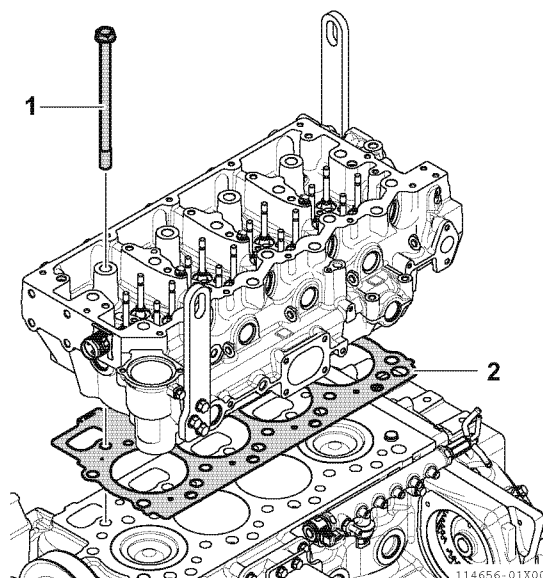

Fig.14-5
3. Remove the cylinder head bolts (1, Fig.14-5), then lift and remove the cylinder head from the cylinder block. Discard the cylinder head gasket (2, Fig.14-5). Position the cylinder head on the work bench to prevent damage to the combustion surface.